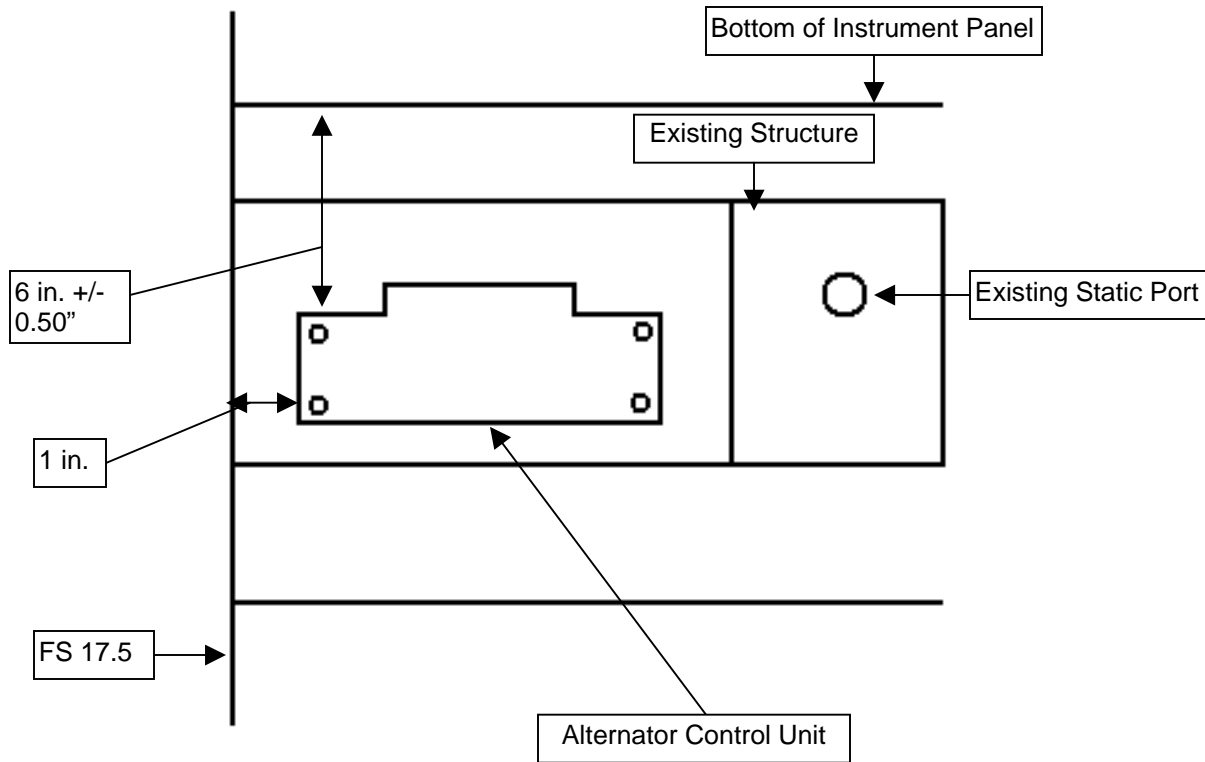

Figure 6
4. Install the BC203-2D Alternator Controller on the LH side of the fuselage aft of the firewall using 4ea. 6-32 screws MS24693-S26, 4ea. MS21042-06 nuts and 4ea. AN960-6 washers. Reference Figure 6 and Illustration VI for the location and installation orientation of the Controller/Regulator. The Alternator Controller is mounted 6in (+/- 1/2in) from the bottom of the instrument panel and 1in (+/- 1/4in) forward of FS 17.5.